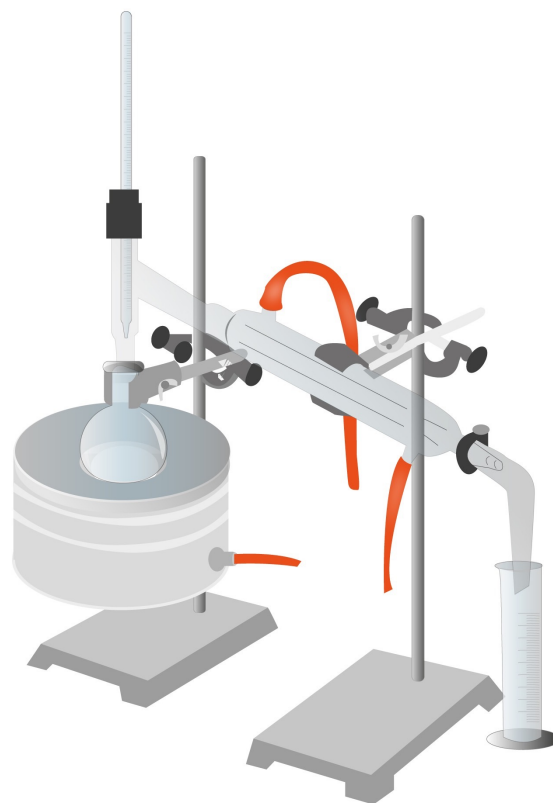

Figure DO.4: Macroscale distillation set-up
2. Assemble the distillation apparatus (Figure DO.4) ensuring that the thermometer bulb should be aligned at or slightly below the opening in the side arm of the distillation head. Each ground joint is greased by putting three or four stripes of grease lengthwise around the male joint and pressing the joint firmly into the other without twisting.